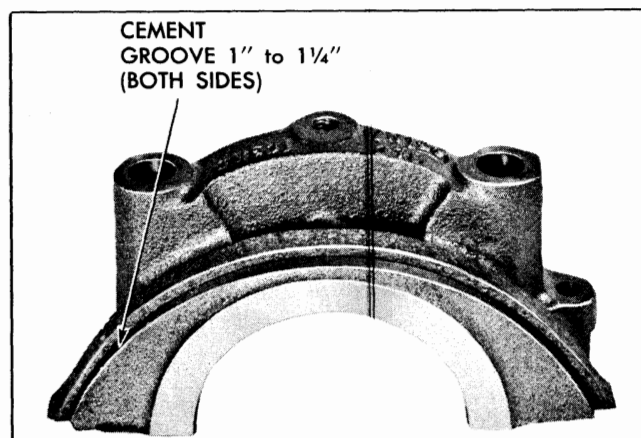

Fig. 6-52 Rear Oil Pan Gasket Positioned in Bearing Cap
2. Install new oil pan gasket in rear main bearing cap (Fig. 6-52).